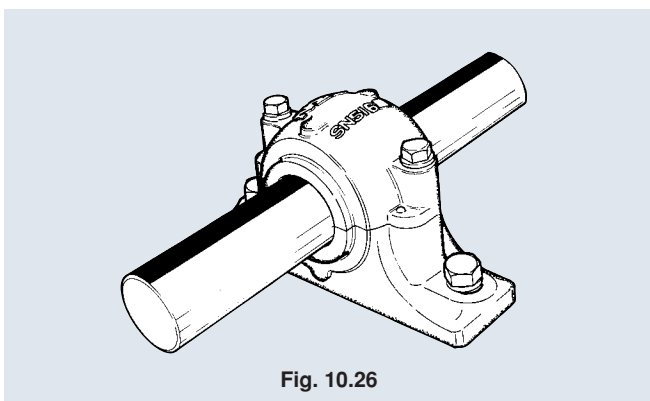

Fig. 10.26
- (7) After filling with lubricant, check the mating surfaces between the upper and lower plummer block housings are stably in contact with each other. Remember to apply grease to the mating surfaces on the plummer block housings to ensure reliable sealing and rust-proofing. Then, fully tighten the tightening bolt. (See **Fig. 10.26**.)